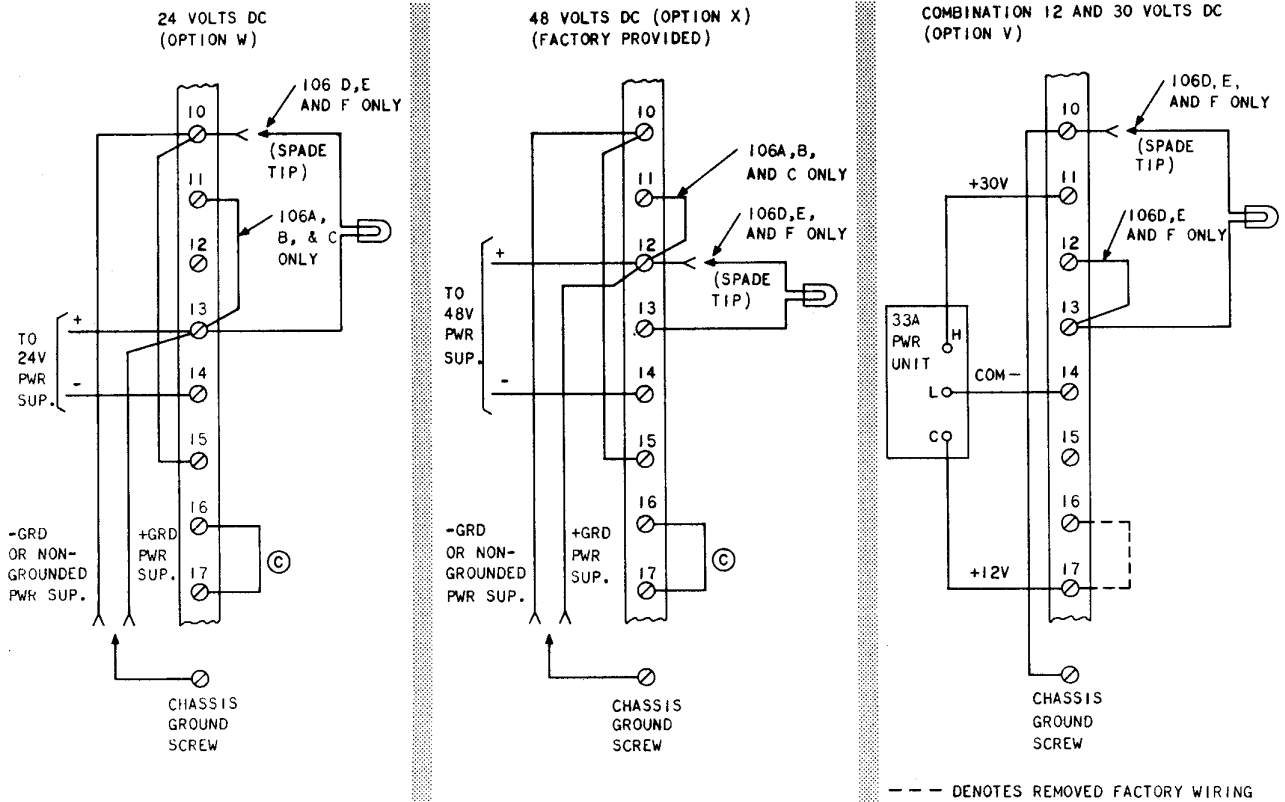

Fig. 9—Connections for 106-Type Loudspeaker Set—Power Supply Options
5.01 Connect power supply options as shown in Fig. 9. When using 24 or 48V dc (option W or X), verify that there is a strap between terminals 10 and 15. Determine the ground polarity of the power supply and connect terminal 10 for negative ground or ungrounded supply, or terminal 13 (option W) or 12 (option X) for a positive ground supply, to the amplifier chassis ground screw (Fig. 2, 3, 4, and 5). When a combination of 12 and 30 volts dc (option V) is used, be sure to remove the strap between terminals 16 and 17 and add strap between 12 and 13.